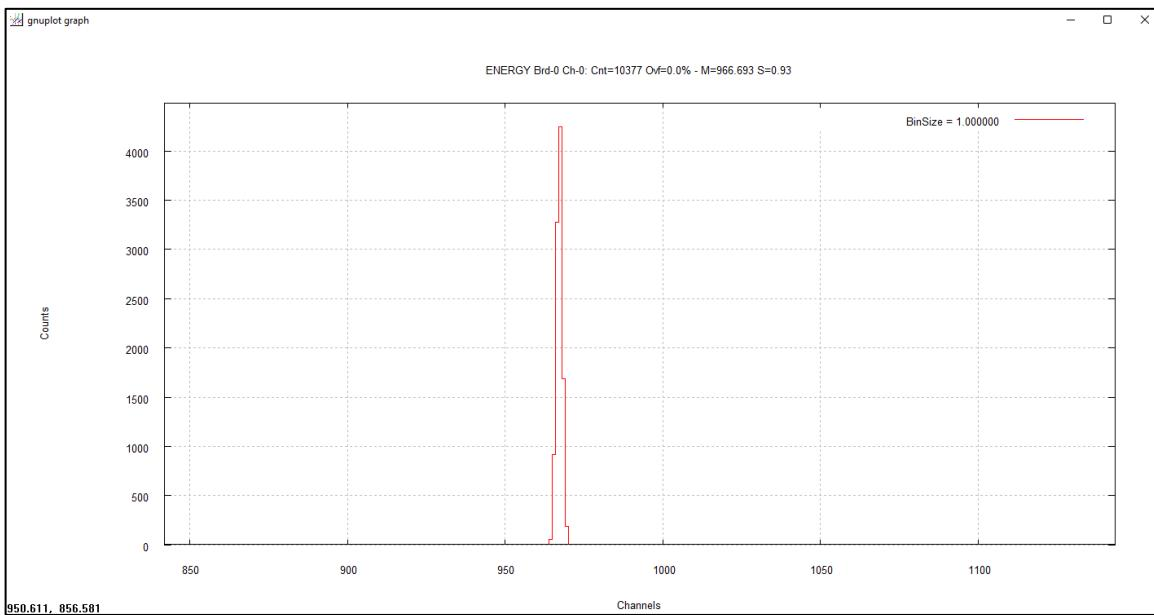

Fig. 5.5: Energy histogram
- Pressing [h] again will show the energy histogram (see **Fig. 5.5**).